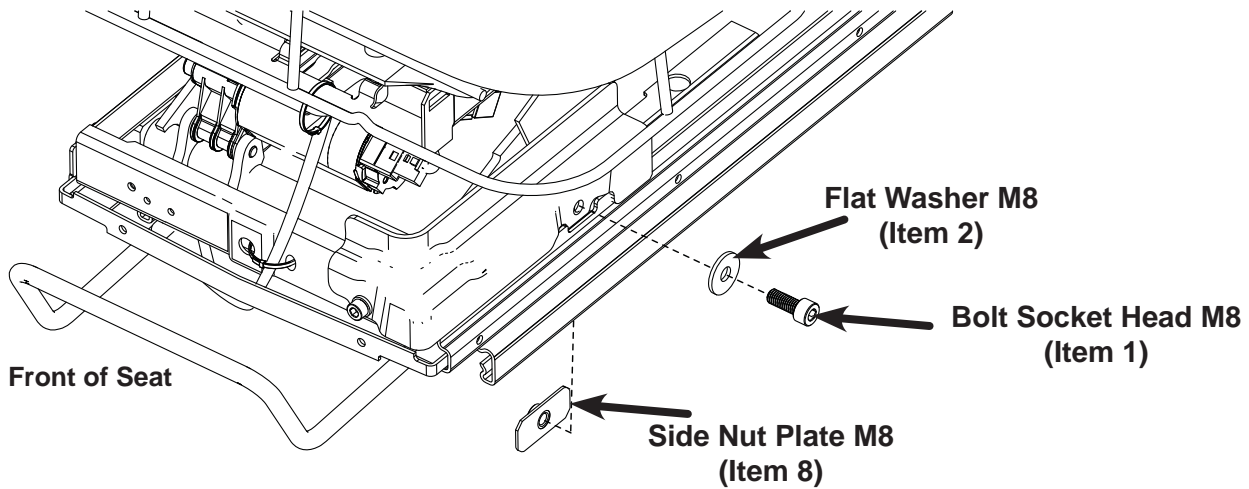

Fig. 17
24. Hand start (1) BOLT Socket Head M8 - 1.25 x 20 (Item 1) with (1) FLAT WASHER M8 (Item 2) thru side of corner reinforcement into (1) NUT PLATE M8 (Item 8) See Fig. 17